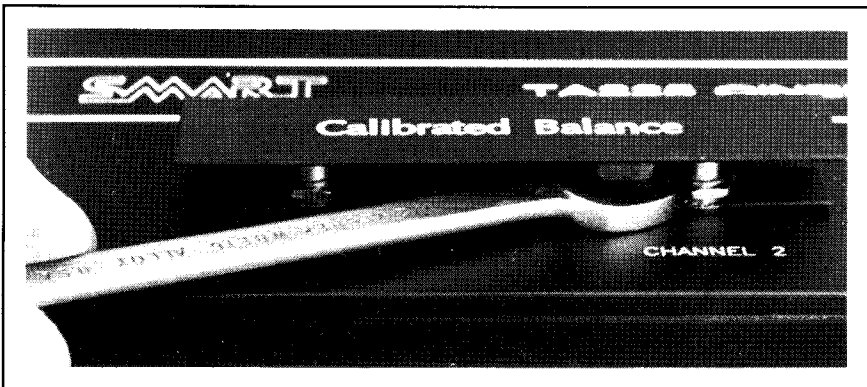

FIGURE 1
- 3) Slip the SC-1 security cover over both control shafts (under the nuts). See Figure 1.